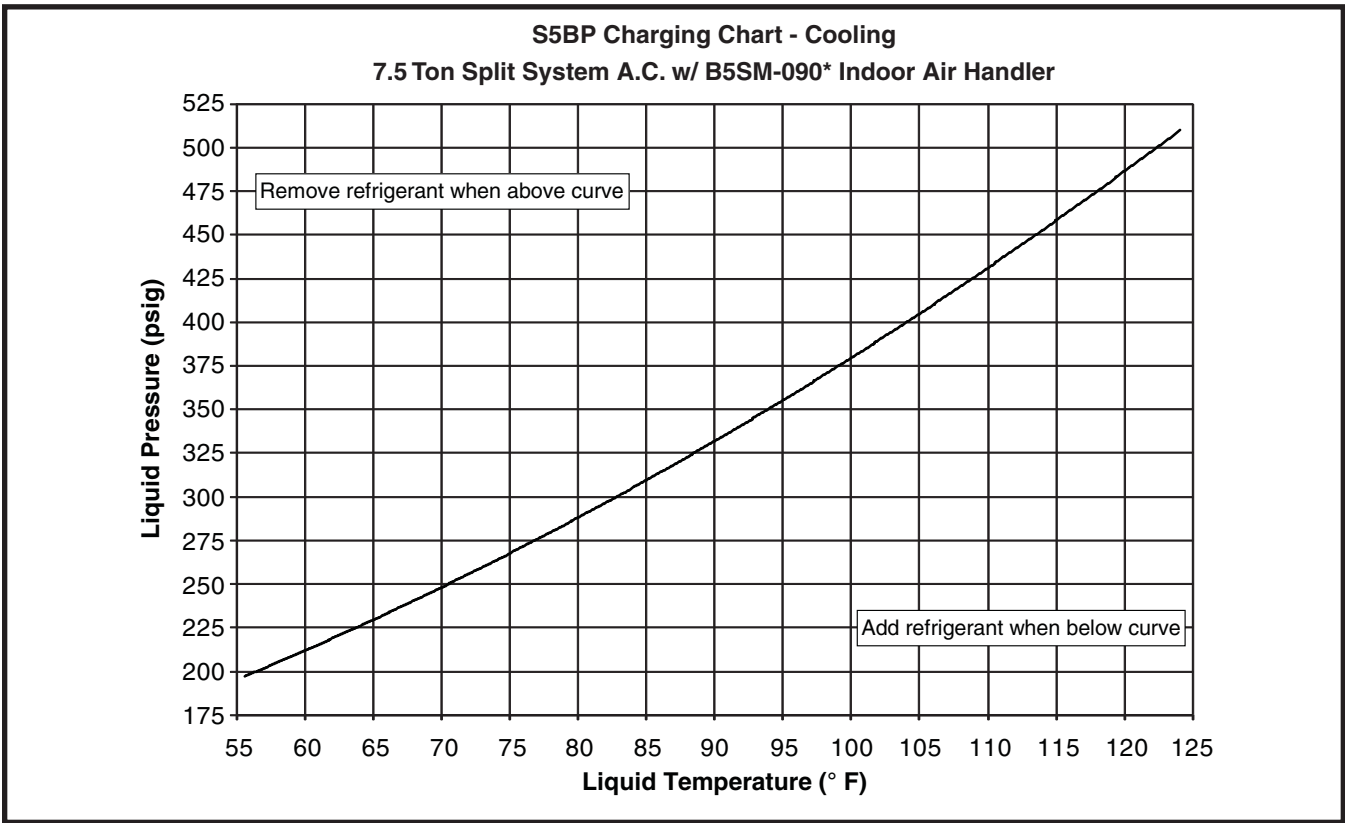

Figure 8. Charging Chart for 7.5 Ton Units
- Charging charts are valid for a variety of indoor, return air conditions and are most influenced by the outdoor ambient temperature, outdoor fan operation and the unit operating voltage. Before using these charts, ensure the unit is in a stable operating mode. As shown in the charging charts (Figures 8 or 9, page 17), the ideal system sub-cooling can vary over the range of operation. Reference the charts to determine the ideal amount of sub-cooling for a given liquid pressure. Units charged to other values will not perform at the rated unit efficiency (EER) or rated Coefficient of Performance (COP) in heating mode.